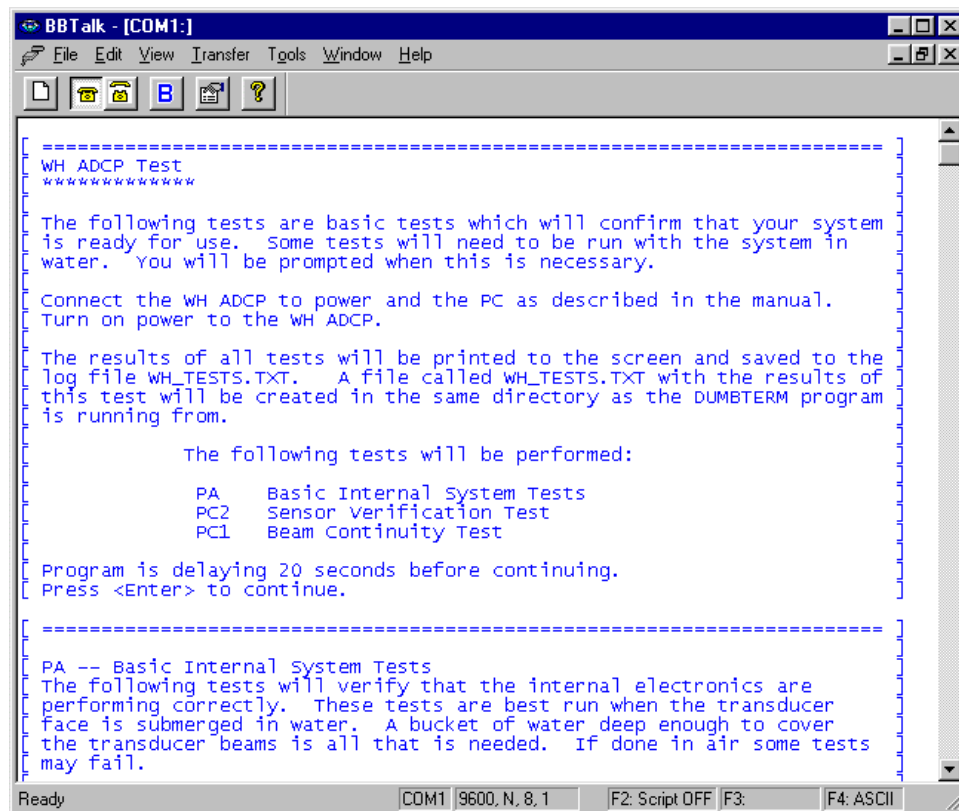

Figure 9. Running a Script File to Test the ADCP
- Follow the prompts on the screen (see Figure 9, page 13).